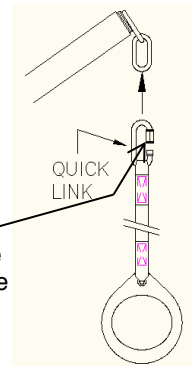

Fig. 7
7. Open the quick links on each Just for Kids Ring and mount them to the Ring Frame. **Close the quick links securely.** (See Fig. 7)